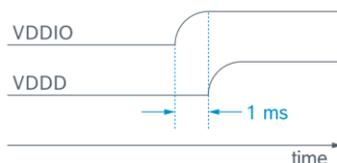

Figure 28: Power-up sequence diagram
- Since VDDD and VDDIO do not share the same power rail, a power-up sequence has to be implemented to ensure the latching of the correct information during start-up (see Figure 28)
- After the required period, a digital output (DO) of the host is used to enable the PMIC #2
Cons	<ul style="list-style-type: none"> ▪ Separate circuits need to be considered for different voltages ▪ Power-up sequence has to be implemented (VDDIO 1 ms before VDDD, see Figure 28)